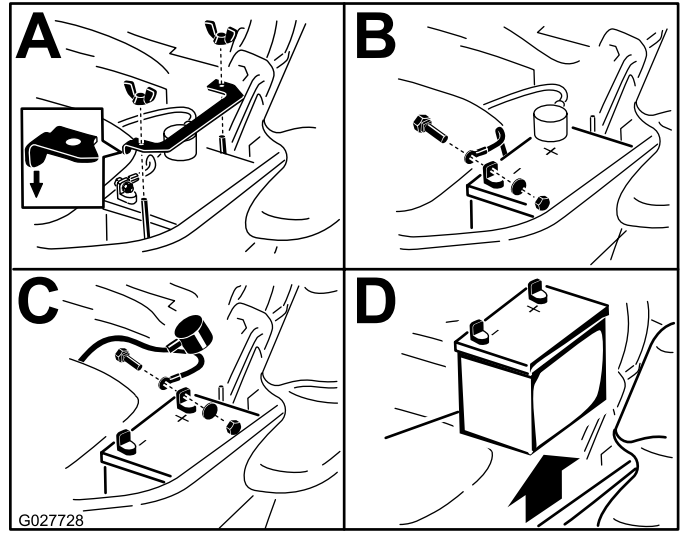

Figure 55
3. First disconnect the negative battery cable (black) from the negative (-)(black) battery terminal (Figure 55).
4. Slide the red terminal boot off the positive (red) battery terminal and remove the positive (+)(red) battery cable (Figure 55).
5. Remove the wing nut securing the battery clamp (Figure 55).
6. Remove the clamp (Figure 55).
1. Position battery in the tray with the terminal posts opposite from the hydraulic tank (Figure 55).
4. Secure the cables with 2 bolts, 2 washers, and 2 locknuts (Figure 55).
6. Install the clamp and secure it with the wing nut (Figure 55).